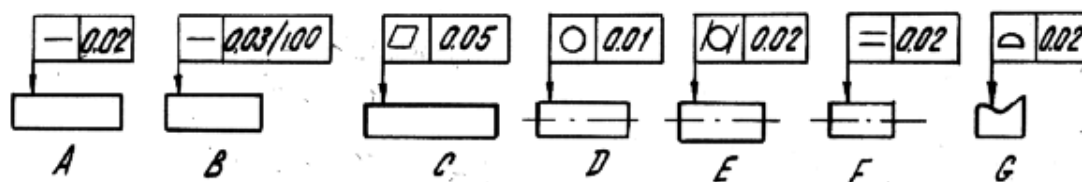

Fig. 1
4. Explain designations of deviations on Fig. 1: